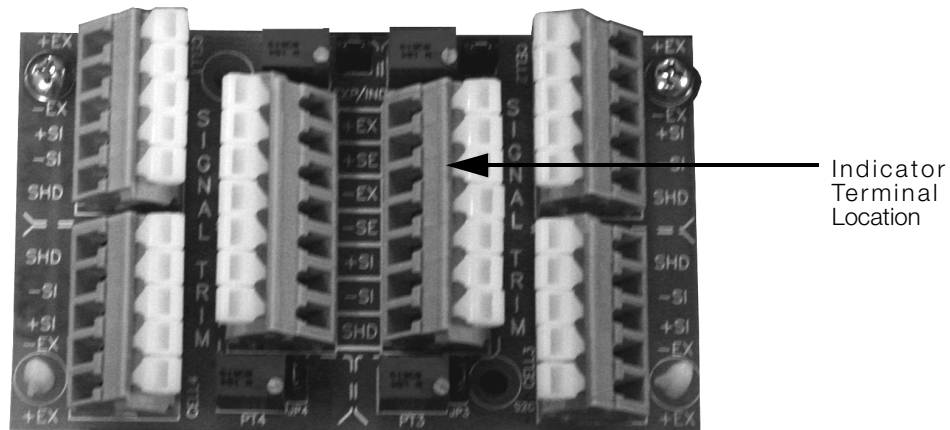

Figure 3-2. Junction Box Wiring Diagram
5. Connect the wires to the indicator terminal (Figure 3-2) as shown in Table 3-1.